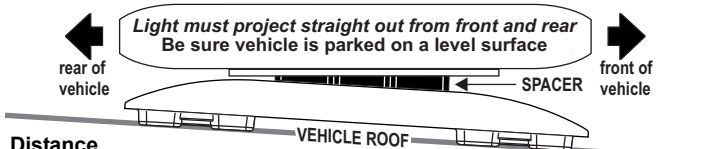

**Fig. 2**
2. Place the bracket into the track on the bottom of the extruded base of the lightbar and twist it into position (Fig. 2).
3. Slide the bracket to the outer end of the base extrusion and secure the bracket to the extrusion using the four 1/4 - 20 X 1/2 ALLEN SET SCREWS (Fig. 2). Repeat steps 1 - 3 for other side of lightbar.